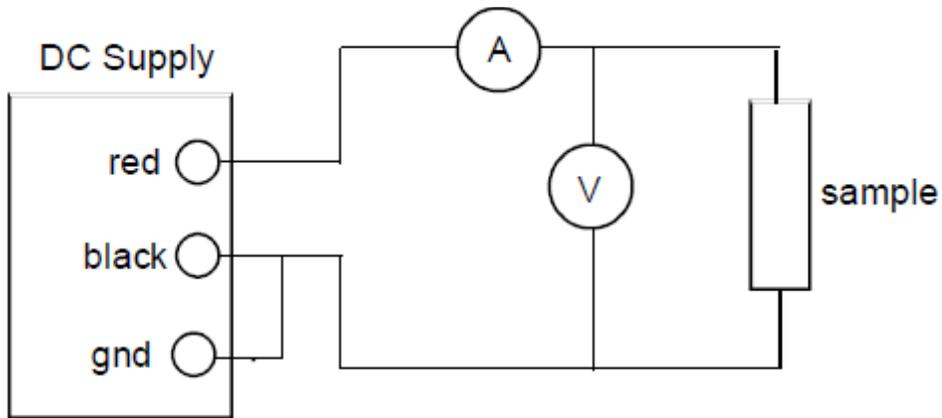

Fig.1. Circuit for measuring resistance
3. Connect the circuit shown in Fig. 1 below. Technical note: Meters can influence sensitive circuit measurements. Namely, the current through the ammeter includes both the sample and the voltmeter currents. The voltmeter, however, draws negligible current for the samples we use.